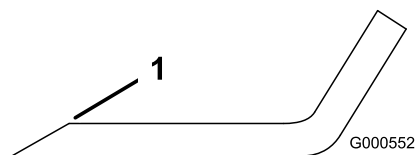
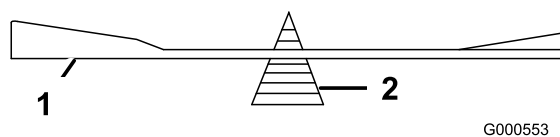

Figure 58
Figure 59
1. Use a file to sharpen the cutting edge at both ends of the blade (Figure 58). Maintain the original angle. The blade retains its balance if the same amount of material is removed from both cutting edges.
2. Check the balance of the blade by putting it on a blade balancer (Figure 59). If the blade stays in a horizontal position, the blade is balanced and can be used. If the blade is not balanced, file some metal off the end of the sail area only (Figure 58). Repeat this procedure until the blade is balanced.